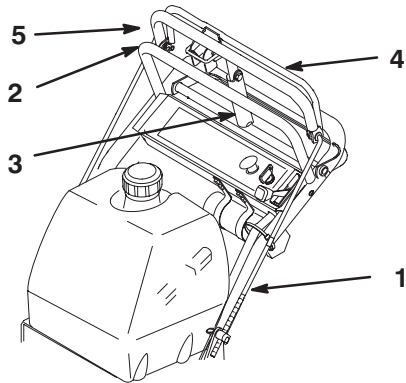

Figure 8
3. Check the gap between upper control bar and fixed bar with wheel drive fully engaged. Gap should be approximately 1 in. to 1-1/4 in. (25-32 mm) (Fig. 8).